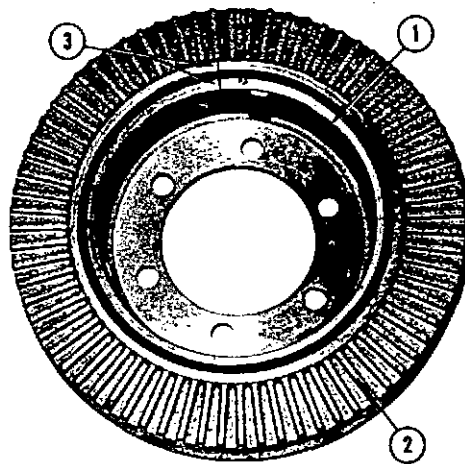

Fig. 5-41, N10146. Vibration damper alignment marks
Damper hub (1, Fig. 5-41) and inertia member (2) are stamped with an index mark (3) to permit detection of movement between the two components.